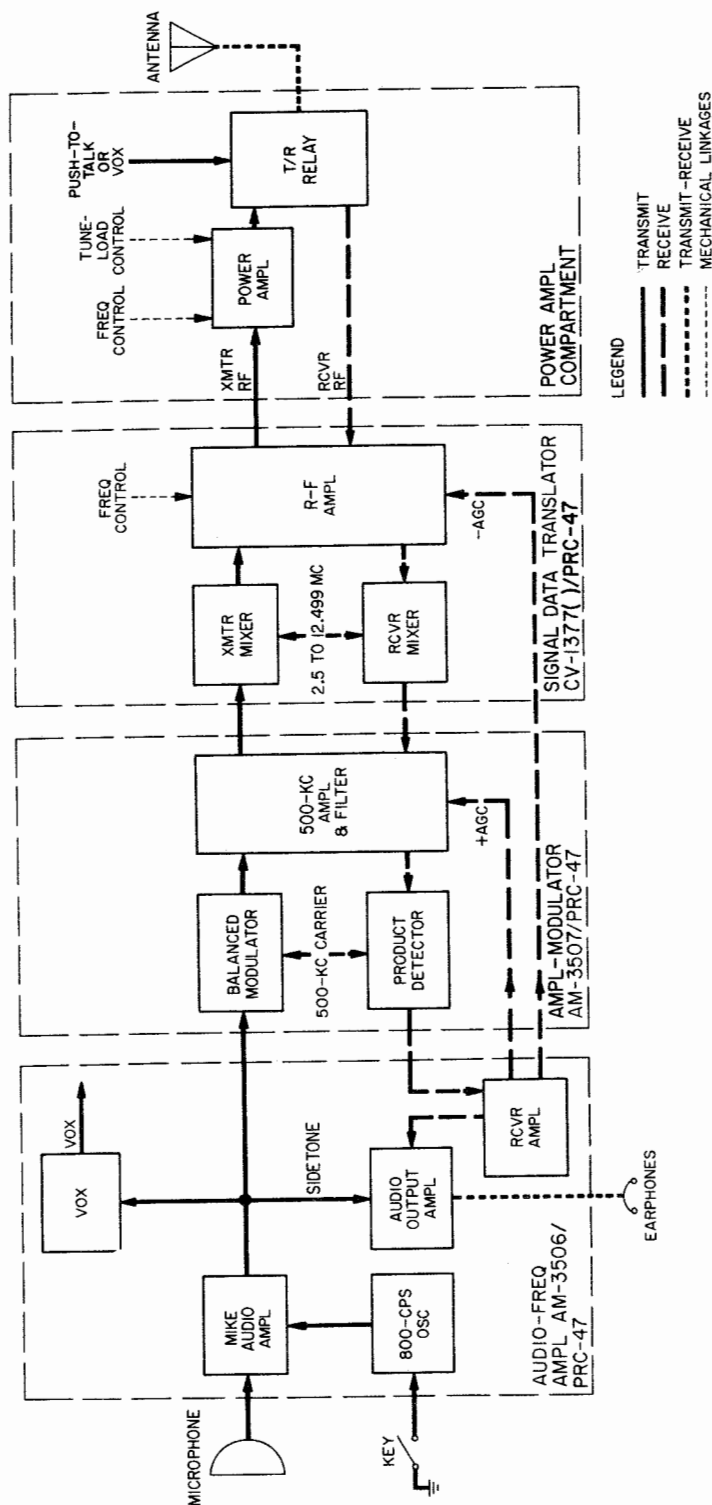

Figure 4-2. Transmit-Receive Circuits, Functional Block Diagram
a. GENERAL DESCRIPTION. (See figure 4-2.)
(1) TRANSMISSION. - For voice transmission, audio signals are supplied from the microphone to a microphone audio amplifier circuit in audio frequency amplifier module A1. This circuit amplifies the audio and compresses it to provide a reasonably steady audio level regardless of variations in the microphone input. A portion of the amplified audio is used as a sidetone signal and is applied through an audio output amplifier in Audio Frequency Amplifier AM-3506/PRC-47 to the headphones for monitoring. Another portion of the amplified audio is applied to a vox (voice-operated transmitter) circuit in Audio Frequency Amplifier AM-3506/PRC-47. Whenever the audio signals exceed a minimum threshold level, the vox circuit supplies a vox switching signal to various circuits in the radio set. This signal switches the radio set from its normal receive condition to the transmit condition. For CW transmission or during tuning, a ground potential switching signal turns on an 800-cps oscillator in the audio frequency amplifier module. The oscillator provides a continuous audio tone to replace the microphone input.